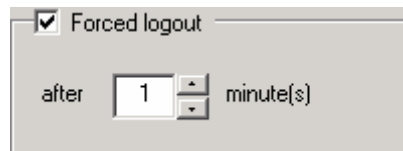

Fig. 161 Forced logout group field
2. Mark the checkbox **Forced logout** (see Fig. 161).